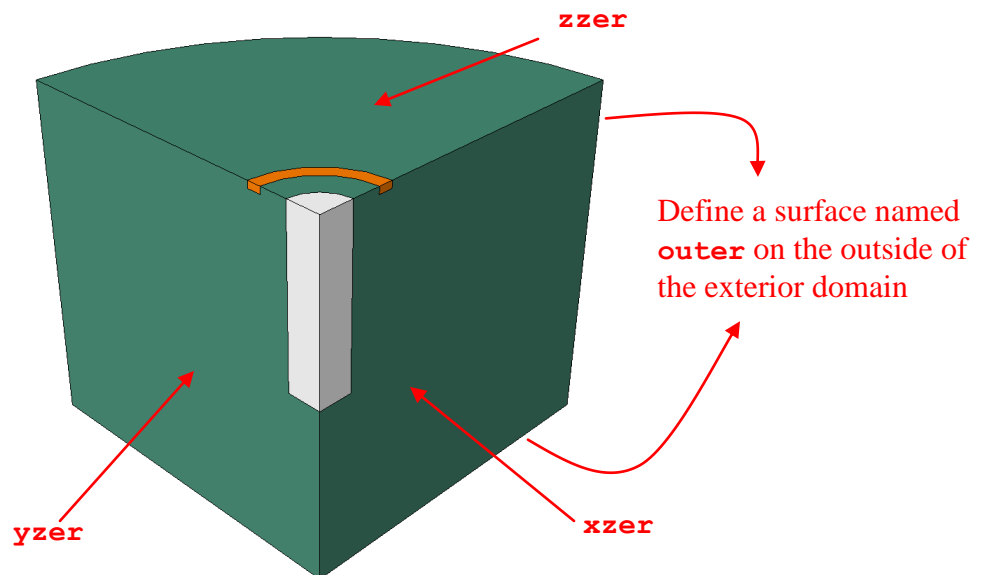

Figure W1–4 Surface definitions
- e. Repeat the steps (c) and (d) to create sets for the coil and the surrounding area and name them **coil** and **air**, respectively (see Figure W1–3).
- f. In the viewport, select the faces on the symmetry plane $X = 0$ (surface **xzer** in Figure W1–4) and click **Done**.
- g. Similarly, create surfaces for the symmetry planes $Y = 0$ and $Z = 0$ (surfaces **yzer** and **zzer** in Figure W1–4) and name them **yzer** and **zzer**, respectively.